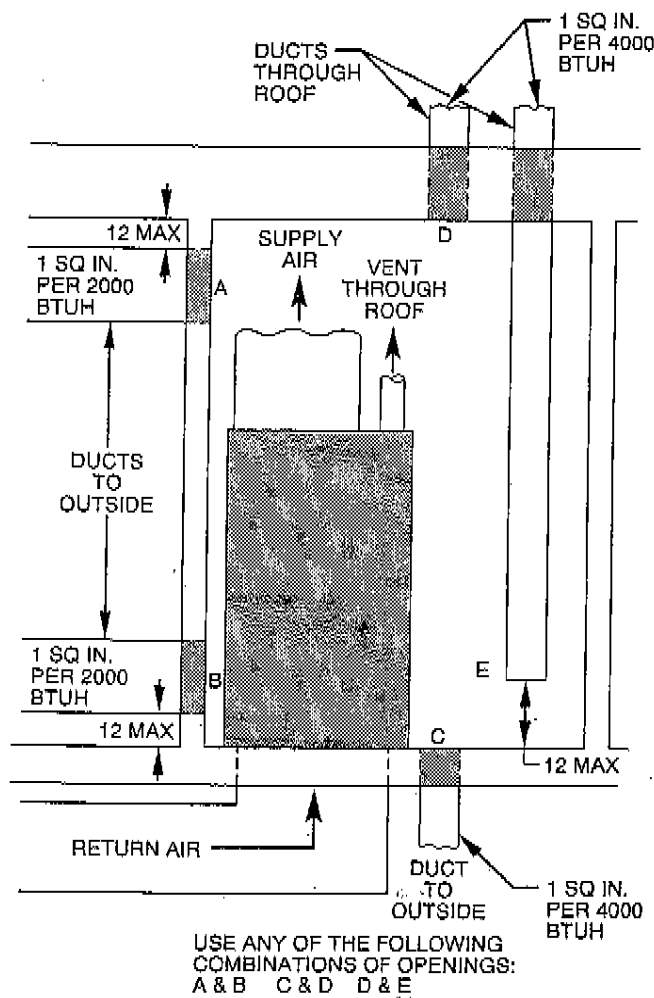

Fig. 3—Air For Combustion and Ventilation (Outside Air)
- If combustion air is taken from outdoors through vertical ducts, the openings and ducts MUST have at least 1 sq in. of free area per 4000 Btuh of the total input for all equipment within the confined space. (See Fig. 3.)
- If combustion air is taken from the outdoors through horizontal ducts, the openings and ducts MUST have at least 1 sq in. of free area per 2000 Btuh of the total input for all equipment within the confined space. (See Fig. 3.)
When ducts are used, they must be of the same cross-sectional area as the free area of the openings to which they connect. The minimum dimension of rectangular ducts must not be less than 3 in. (See Fig. 3.)